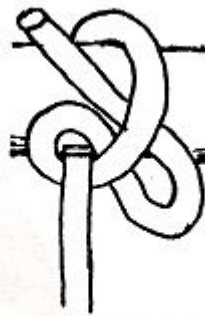

**Figure 5 Round Turn**
**Round Turn:** A round turn around a post will resist a considerable pull if the end is held by hand as illustrated in Figure 5.